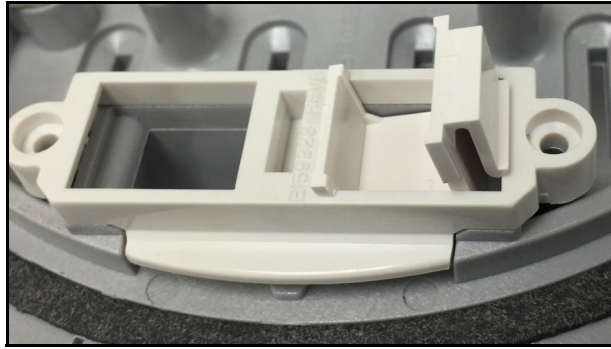

Figure 8.17: Removing Blank Panel
The blank panel in the Figure 8.17 is shown partially removed in the figure (accomplished by pressing the tab on the right side).
8. Insert the keystone jack(s) where the blank(s) was removed, with its latch facing the same direction (see Figure 8.17), making sure it locks in place. A properly latched jack should stand straight up, perpendicular to the base, and there shouldn't be a large gap visible between the jack and the port opening (see Figure 8.18).